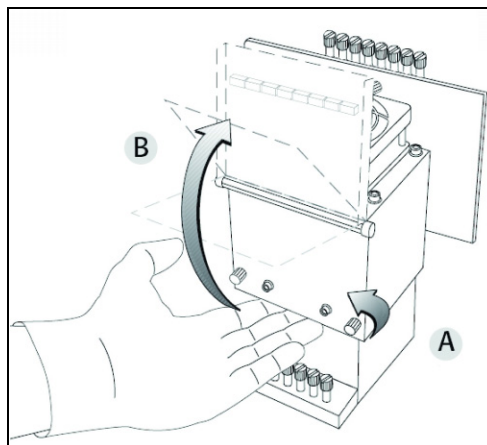

Figure 7-41: Opening the printing head compartment
- a. Open the printing head compartment (see figure 7-41 on page 7-28).